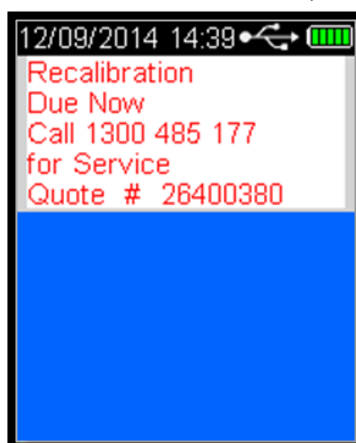

Figure 118 Recalibration Due Now Message
- When the re-calibration warning message period have expired, the Recalibration Due Now screen is displayed and the instrument is locked, preventing any further breath tests being performed whilst the instrument is in an uncalibrated state, this remains so until the instrument is re-calibrated (Refer Figure 118).